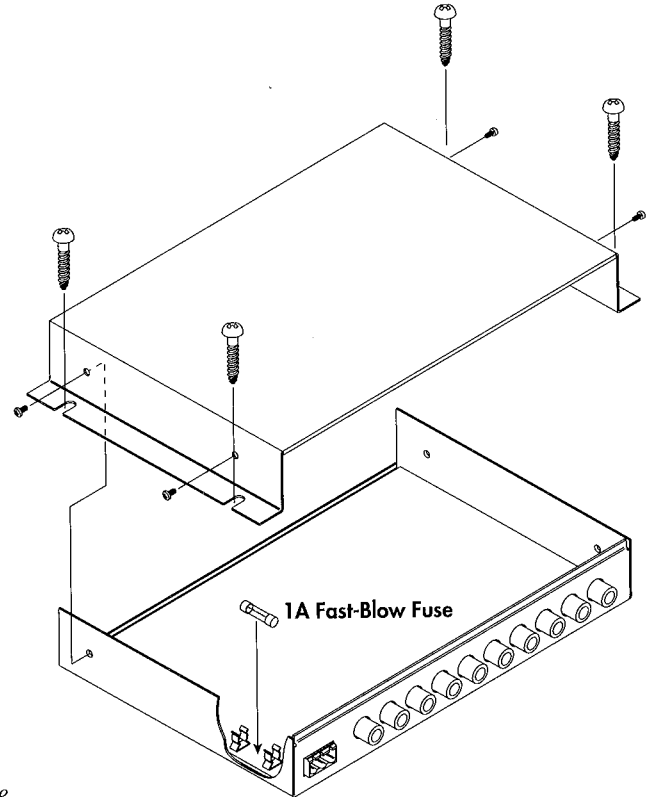

Figure 10. Location of XE-2 fuse.
NOTE: To access the internal fuse, turn off the power and then remove four screws from the side panels. The fuse is next to the power connector (see Figure 10 on page 14).
4. Lift the top panel to expose fuse holder (next to power connector), as shown in Figure 10.